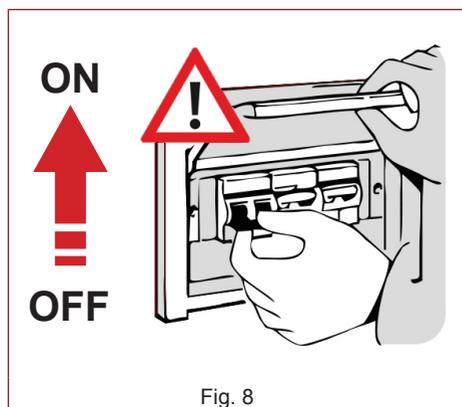

Fig. 8
- If present, set the thermal-magnetic circuit breaker located upstream of the power socket to the 'ON' position (Fig. 8).